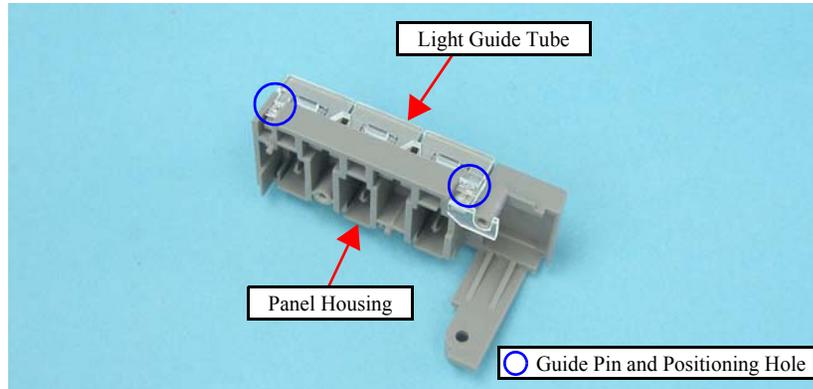

Figure 4-20. Removing Light Guide Tube
- Insert the guide pins (x2) of the Panel Housing into the positioning holes (x2) of the Light Guide Tube as shown in Figure 4-20.